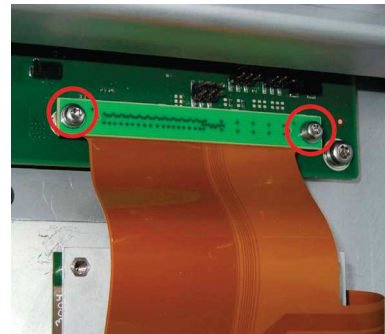

Fig. 7.14 Connector
- 4 Remove the two screws holding the connector for the interconnection PCB to the motherboard - use Torx T10 (tools 1/7). Shown in Fig. 7.14 \(p. 122\). Pull out the connector.